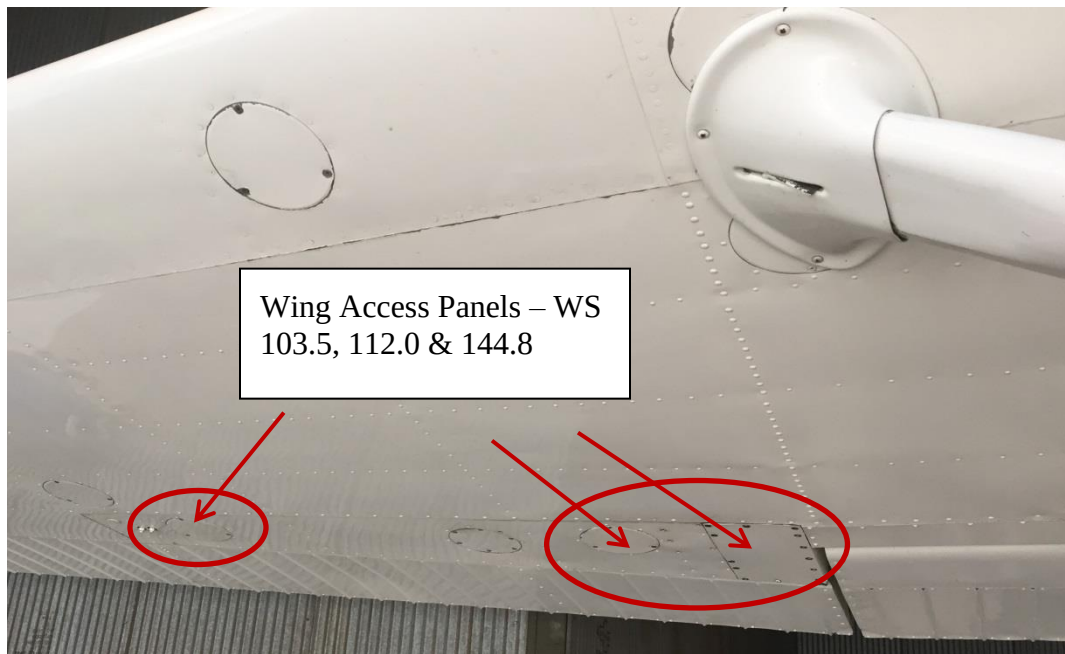

FIGURE 2-2 ROLL SERVO ACCESS PANELS
1. Remove RH wing inspection panels located at WS 103.5, 112.0, and 144.8, Ref Figure 2-2.